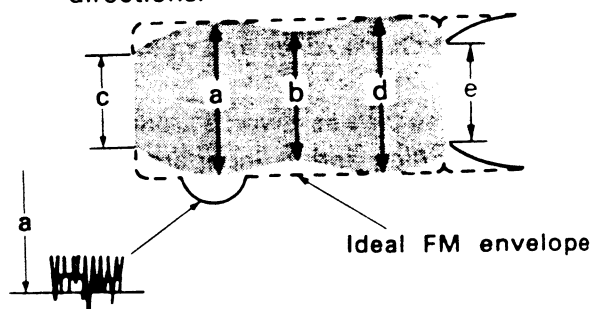
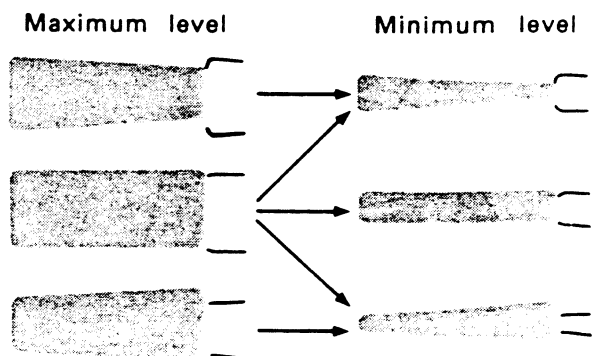

Fig.7-1 FM waveform (max. output)
Fig.7-2 Normal waveform examples
- Refer to Fig.7-1. Read the level of portion (a) of the waveform. If the waveform is serrated at point (a), read the value at the most uniform serrations as shown above in Fig.7-2.